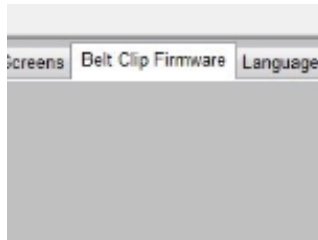

Figure 6 – Tab within N_SIGHT R900 Utilities
3. Select the **Beltclip Firmware** tab. See Figure 6.